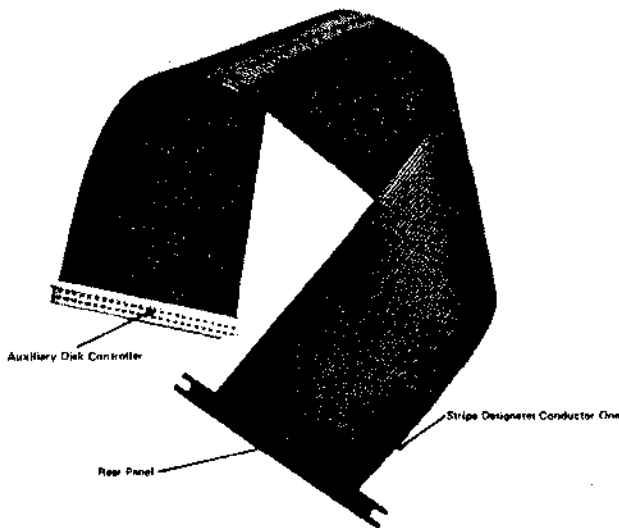

Figure 2-8 – 5010 Unit Disk I/O Cable – 801782
2.12 *5010 Unit Disk I/O Cable* illustrated in Figure 2-8 interconnects the 5010 Unit rear panel with the Auxiliary Disk Controller in the 5010 Unit chassis. This cable has 50 conductors and is 14 inches long.